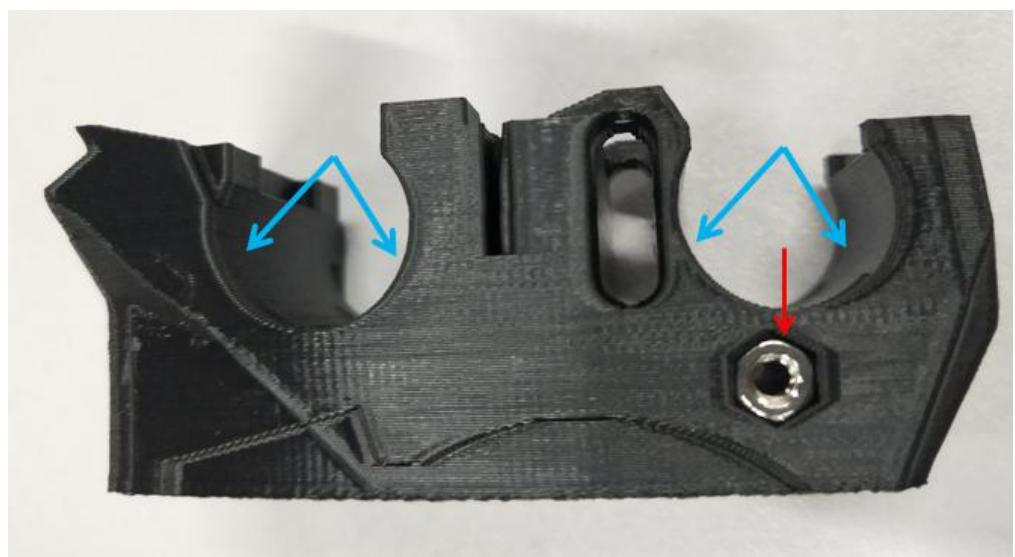

Figure 2.10.3
**A: Embed an M3 hexagon nut into the hexagonal groove on MINI-x-carriage as shown in Figure 2.10.3.**